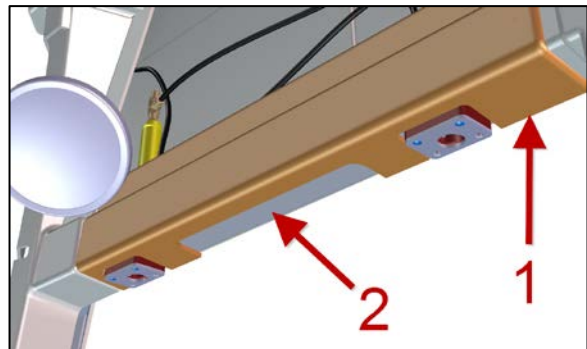
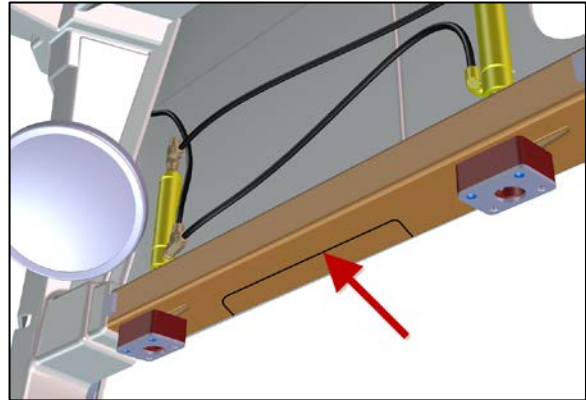

Figure 4
Figure 5
5. Install the new entrance door upper moulding #3210118 (item 1, Figure 4). Do not install screws yet.
6. On the vehicle metal structure, mark up the shape of the moulding cut out (item 2, Figure 4).
7. Remove the new entrance door upper molding (item 1, Figure 4). The arrow in Figure 5 shows the projection of the molding opening.